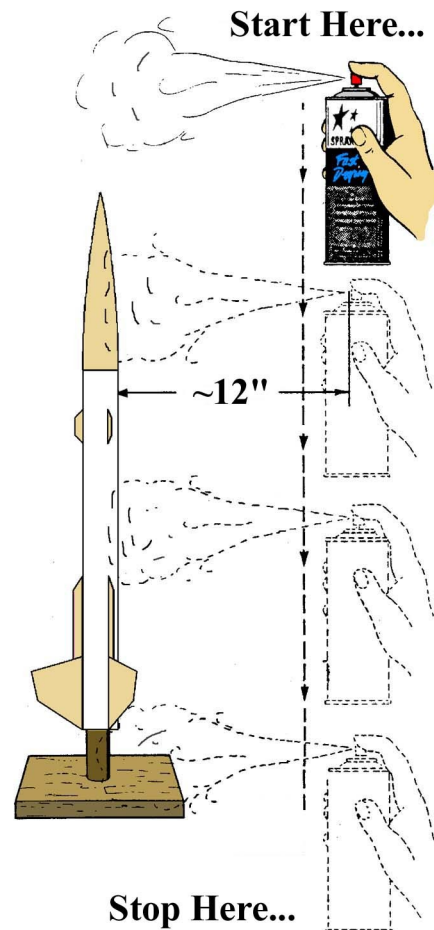

Figure 11
- **Step 25** The choice of paint scheme is left up to you, but we recommend a white body as the base color, and deep blue for the nose cone. The decals will provide the remaining trim colors. Spray the model in a consistent manner, as shown in Fig. 11 below, always in the same direction, top to bottom. Give the entire model a coat of white as a base color. When applying trim colors, spray the nose cone separately, but use the same method. Do not use heavy coats, but multiple light coats, building up layers of color. Give the main color at least 48 hours to cure before attempting to mask off for the trim.
- **Step 26** After the final color coat has dried for several days, spray a clear gloss acrylic coat over the entire model in the same manner as shown in Fig. 11. Give this a day to fully cure, then apply the decals shown at the front of these instructions. When the decals have dried completely, give the model another coat of the acrylic clearcoat to seal the decals and protect them from flight hazards.